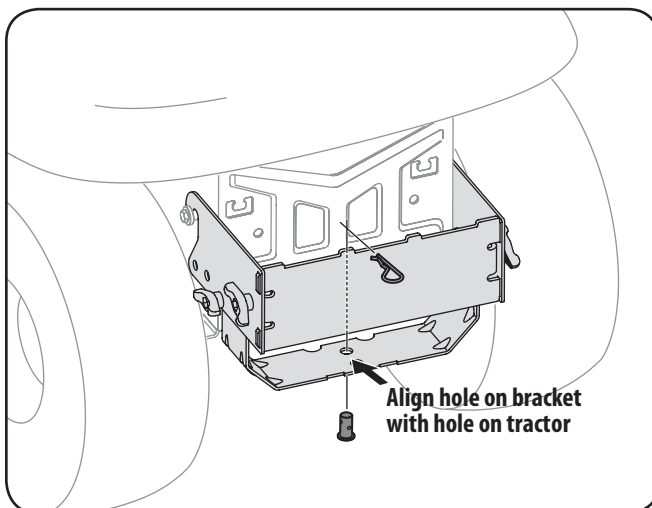

Figure 4-6
2. Install the clevis pin (711-309A) from hardware pack 689-00328A into the tractor's hitch and secure with a hairpin clip (714-0117). See Figure 4-6.